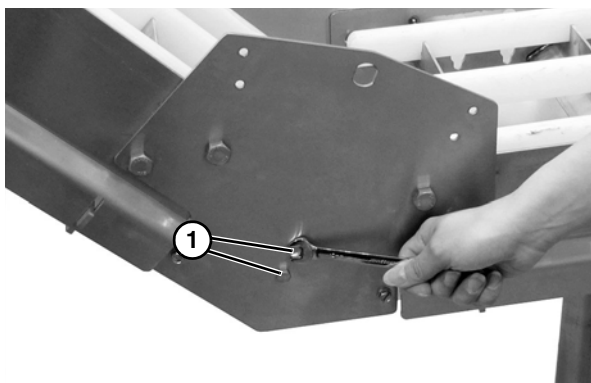
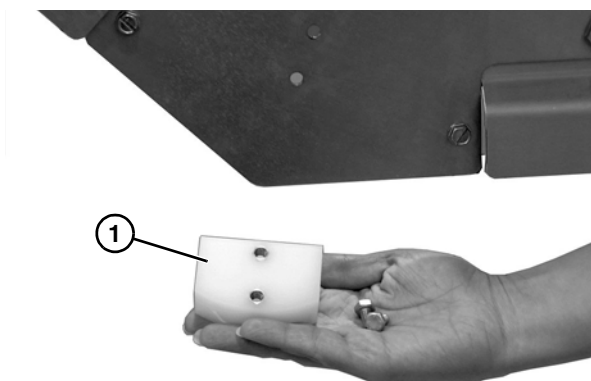

Figure 55
Figure 56
4. Remove two cap screws (**Figure 55, item 1**) and the inner belt return guide (**Figure 56, item 1**). Repeat on opposite side of the conveyor.